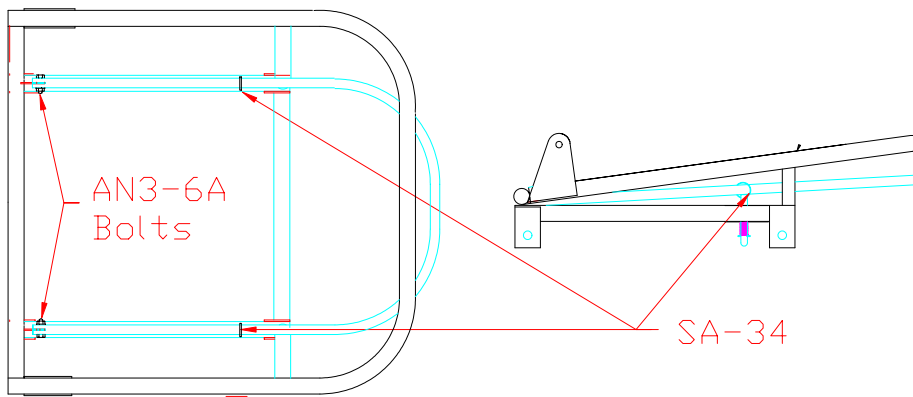

Figure 22.2.5
7) Slip SA-31 through the split rings (SA-34) and bolt SA-31 to the tabs at the rear of SA-19 with AN3-6A bolts. Do not over tighten. Figure 22.2.5.